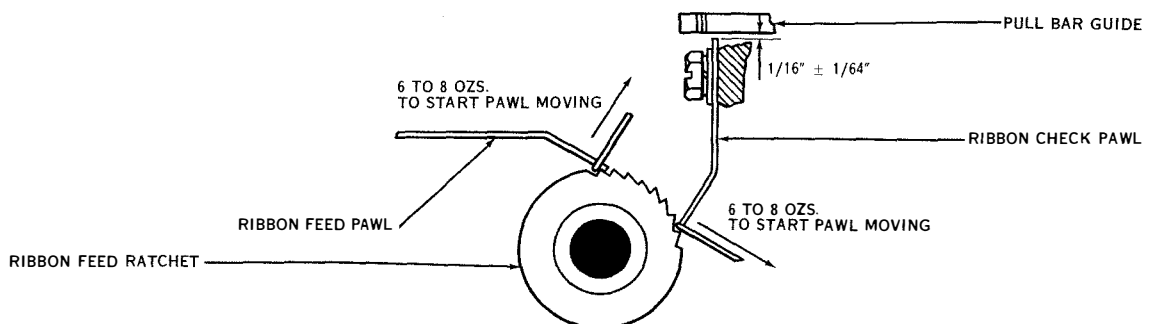

Figure 7-49. Ribbon Check and Feed Pawl Springs
Remove the ribbon feed pawl and ribbon check pawl before starting the following two adjustments (see figure 7-49).
(43) **RIBBON CHECK PAWL.** (See figure 7-49.)—The upper end of the ribbon check pawl should be $1/16$ inch (plus or minus $1/64$ inch) below the lower surface of the pull bar guide. To adjust, position the ribbon check pawl. Hold the pawl in position and tighten the mounting screw.
(44) **RIBBON CHECK PAWL SPRING.** (See figure 7-49.)—A tension of six to eight ounces should be required to start the ribbon check pawl moving away from the ratchet. To check, hook an eight-ounce scale over the end of the pawl. Pull at right angle to the pawl and note the tension as the pawl starts to move. Make certain the edge of the pawl is not binding in the ratchet when checking the tension. To adjust, bend the ribbon check pawl spring.
(45) **RIBBON FEED PAWL.** (See figure 7-49.)—The ribbon feed pawl should be positioned so that the ribbon feed ratchet will be advanced one or two teeth
(46) RIBBON FEED PAWL SPRING. (See figure 7-49.)—A tension of six to eight ounces should be required to start the ribbon feed pawl spring moving away from the ribbon feed ratchet. To check, push the ribbon feed shaft to the right and place the main shaft in its stop position. Hook an eight-ounce scale over the front edge of the pawl and pull at right angle to the pawl. Note the tension as the pawl moves away from the ratchet. Make certain the edge of the pawl is not binding in the ratchet when checking the tension. To adjust, bend the ribbon feed pawl spring.